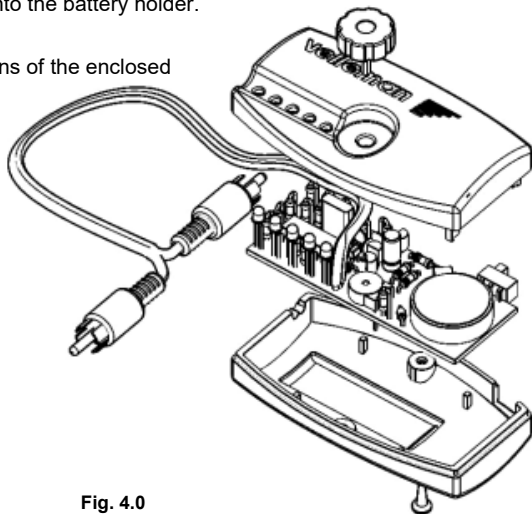

Fig. 4.0
- ☐ Mount all parts and close the housing by means of the enclosed screws, see figure 4.0.